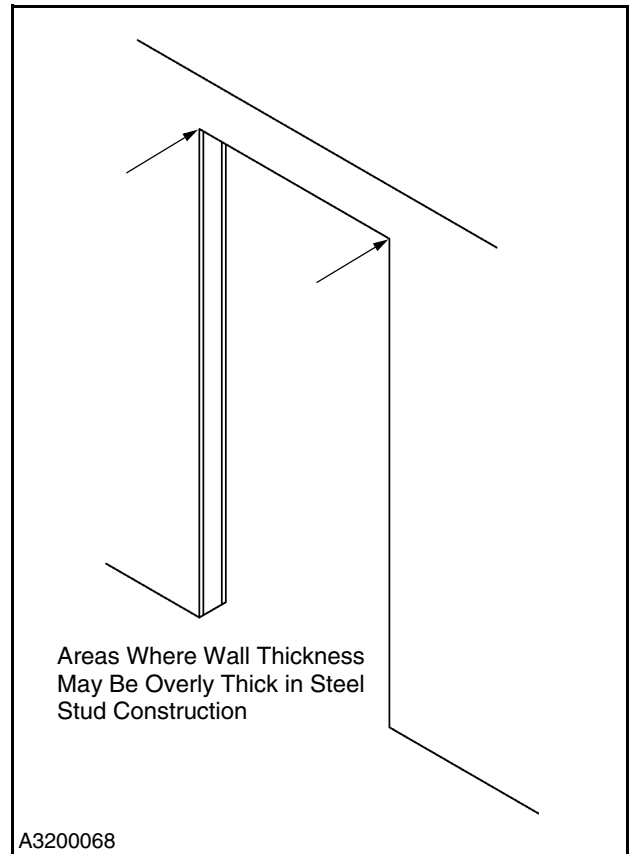
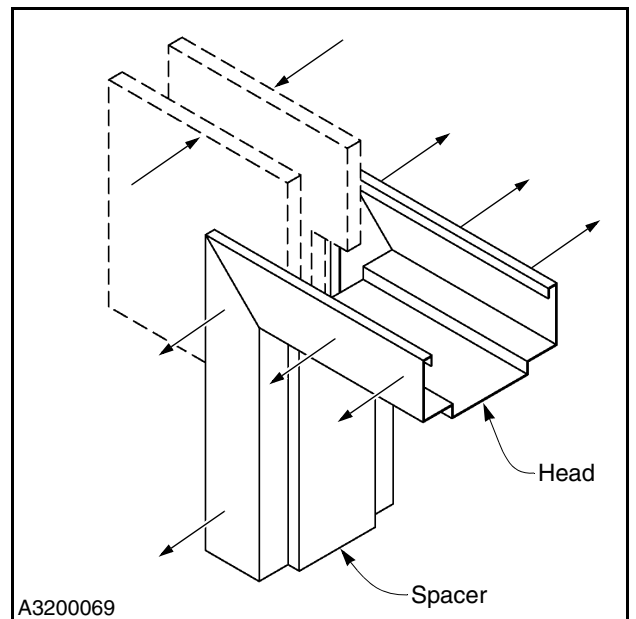

Figure 34
Figure 35
- The second condition is a gap that varies along the length (height) of the jamb. This condition is generally found in steel stud construction and results in overly thick walls in the upper corners of the opening. This is usually a direct result of how the steel stud headers were attached to the vertical steel studs to form the opening. When the wall is oversize (in this area), it forces the header and jamb miters to spread apart and actually open up the throat dimensions to accept the oversize wall. This causes the corners of the frame to be extremely tight on the wall. A gap develops farther down the jamb and it then gradually disappears closer to the floor. (See Figure 34 and Figure 35.)